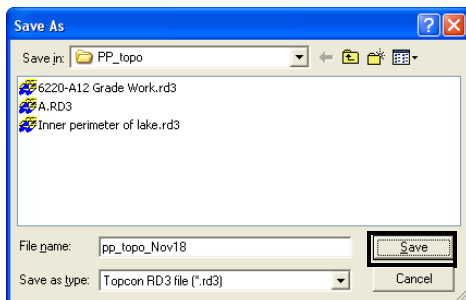

Figure 6-53. Save Alignment File
2. On the *Save As* dialog box (Figure 6-53 on page 6-44), do one of the following: